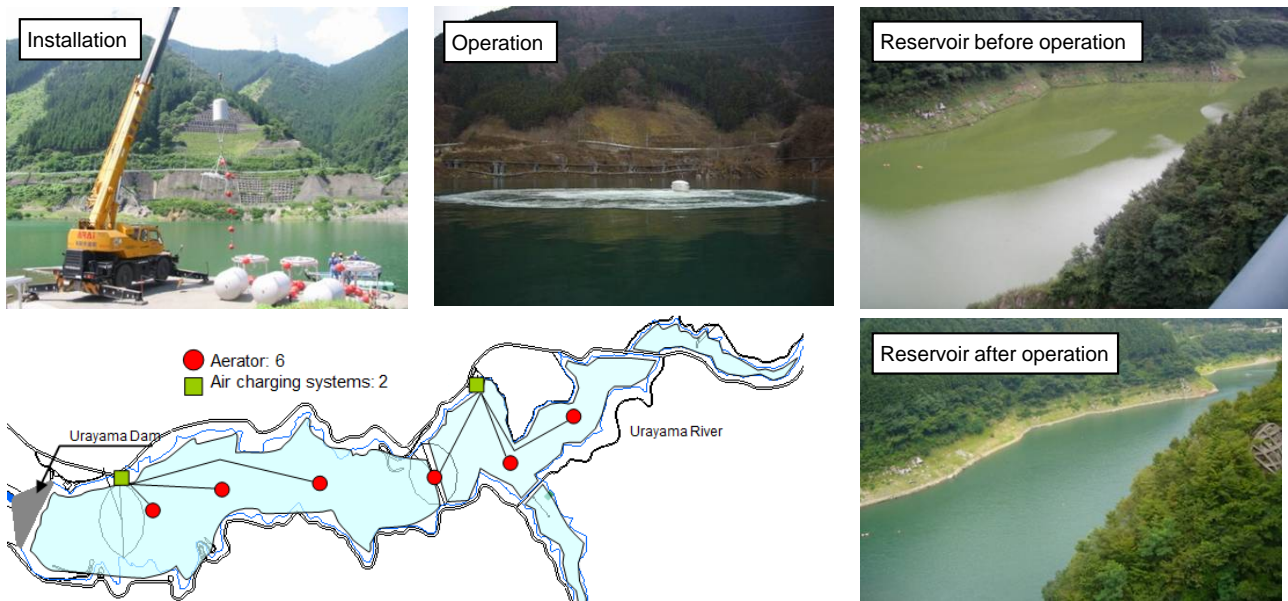

Fig.6-3 Urayama Dam
- Urayama Dam in Saitama Pref.(Fig.6-3)